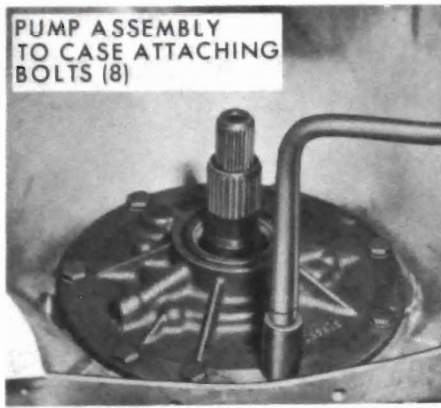

Figure 75-88
1. Remove eight (8) pump attaching bolts with washer type seals. Discard washer type seals. See Figure 75-88.